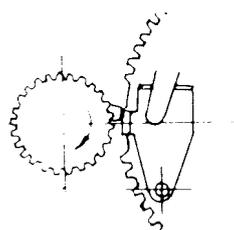

Fig. 2
- The engagement is very easy to move as it simply rests on the lower trip. On the music section of the record groove the engagement moves so slightly that it is returned by the tip of the projection. Consequently, the turntable spindle gear does not engage with the main gear and thus does not trigger the auto-return operation as shown in Fig. 2.